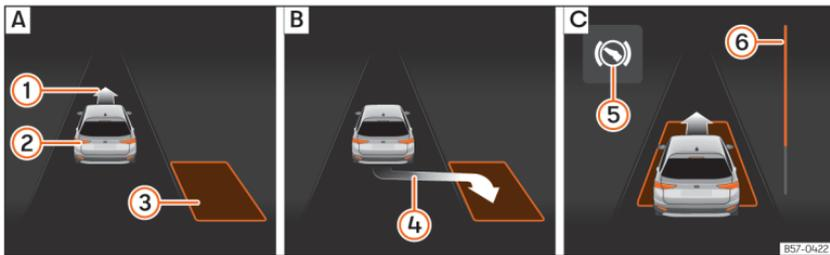
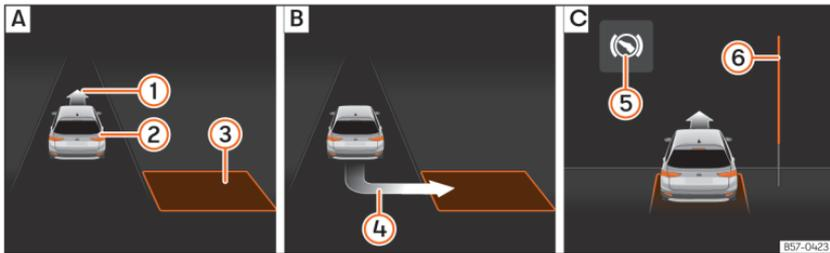

Fig. 126 On the instrument cluster display: parallel parking. **A**: Finding a parking space **B**: Parking position. **C**: Manoeuvring.
Fig. 127 On the instrument cluster display: angle parking. **A**: Finding a parking space **B**: Parking position. **C**: Manoeuvring.
- Look at the instrument cluster screen to see if the space has been detected as “appropriate” and if the correct position for parking has been reached >>> Fig. 126 **B** or >>> Fig. 127 **B**. The space is considered “appropriate” if the instrument cluster display shows the parking indication ④.
- Reverse until the continuous ParkPilot signal sounds; **OR:** reverse until the indication to move forward appears on the instrument panel display »» Fig. 126 [C] or »» Fig. 127 [C]; **OR:** reverse until the **Park Assist finished** message appears on the instrument cluster display. The progress bar (6) indicates the distance to cover.
- Press the brake pedal until the parking assist system completes the steering wheel turns; **OR:** until the symbol (S) goes out on the instrument panel screen.
- Move forward until the continuous ParkPilot signal sounds; **OR:** move forward until the reverse indication appears on the instrument panel display. The Park Assist system steers the vehicle forward and back until it centres it in the space »» Fig. 126 [C] or »» Fig. 127 [C].
The progress bar »» Fig. 126 (6) and »» Fig. 127 (6) on the instrument cluster display shows the relative distance to be covered as a symbol. The greater the distance, the fuller the progress